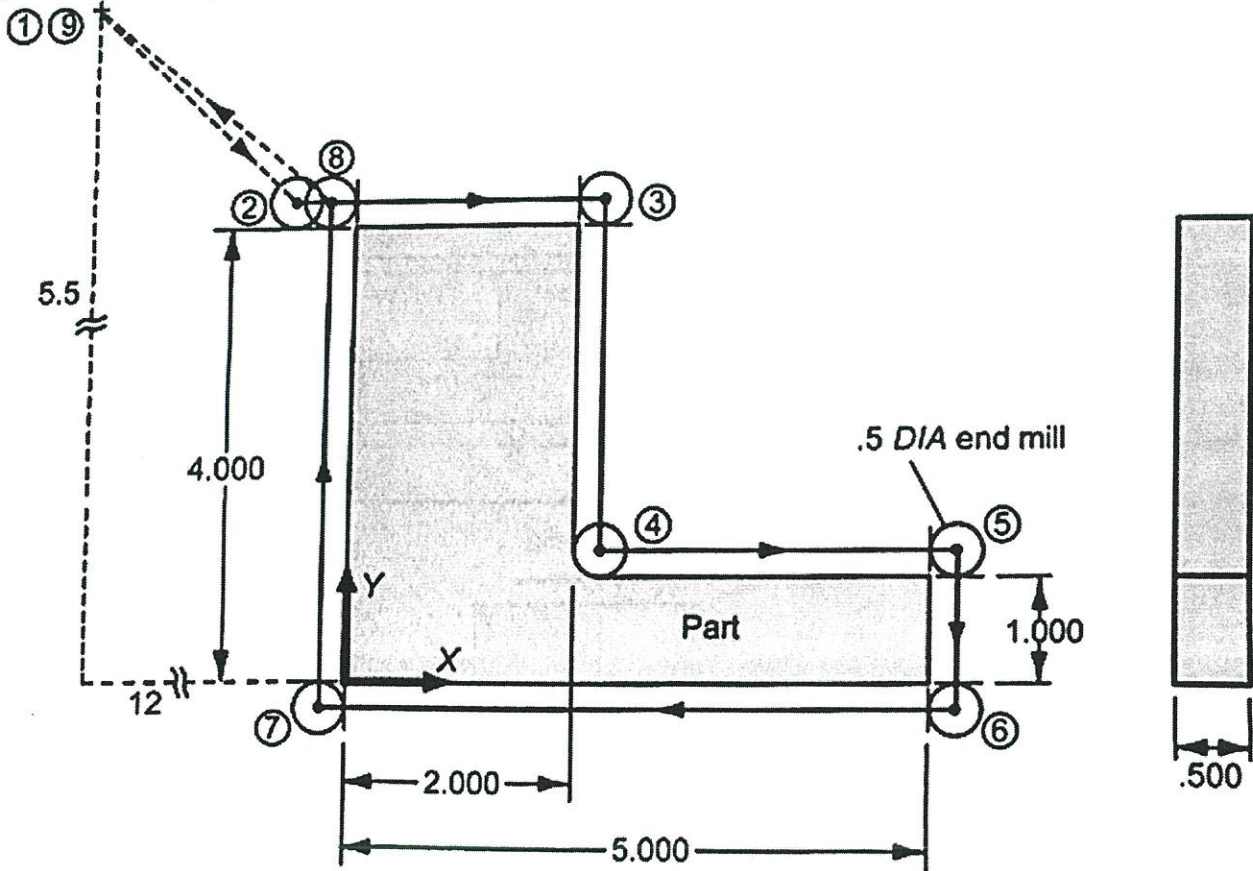

Figure Q2 (a)
- (a) Referring to the drawing in **Figure Q2 (a)**, figure out the suitable cutting method, tools and parameters to machine by using Computer Numerical Control (CNC) milling machine. All dimensions unit are in inch (in).
- (b) By applying the information in **Q2 (a)**, construct a Computer Numerical Control (CNC) milling program to produce the parts as in the drawing in **Figure Q2 (a)**.